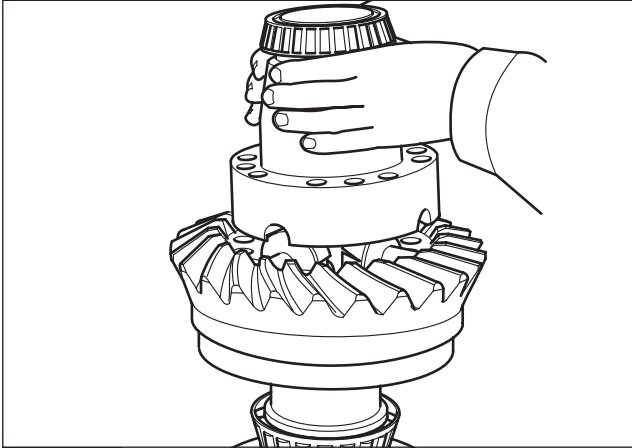

Fig. 2.75
5. Place second half of the differential case in position. (Fig. 2.75)